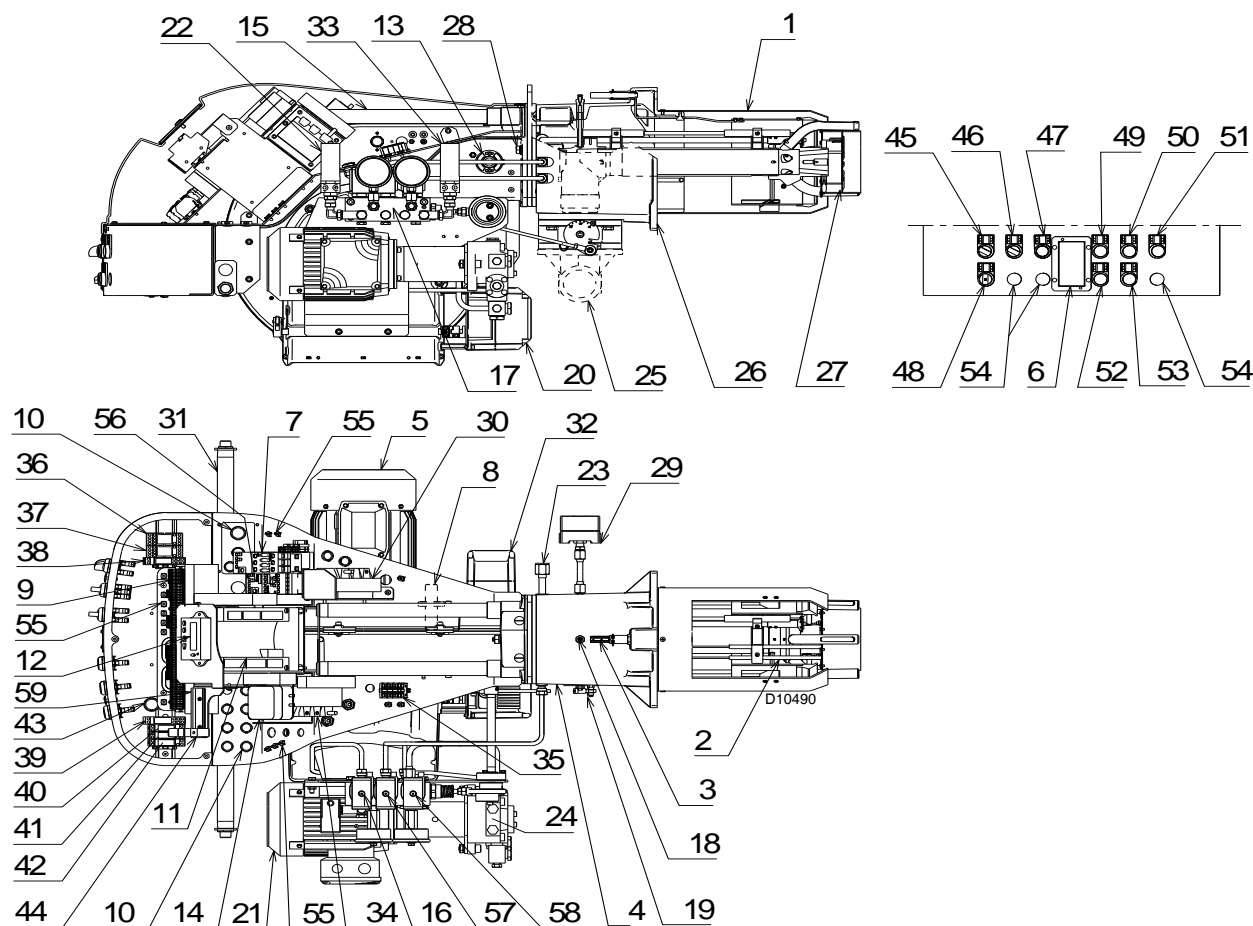

Fig. 3
(1) Reference conditions: Ambient temperature 68 °F (20°C) - Barometric pressure 394" WC - Altitude 329 ft.
(2) Pressure at test point 18)(Fig. 3) with zero pressure in the combustion chamber and maximum burner output.
(3) Sound pressure measured in manufacturer's combustion laboratory, with burner operating on test boiler and at maximum rated output.
(4) Equivalent Btu values based on 1 USGPH = 140,000 Btu/hr.